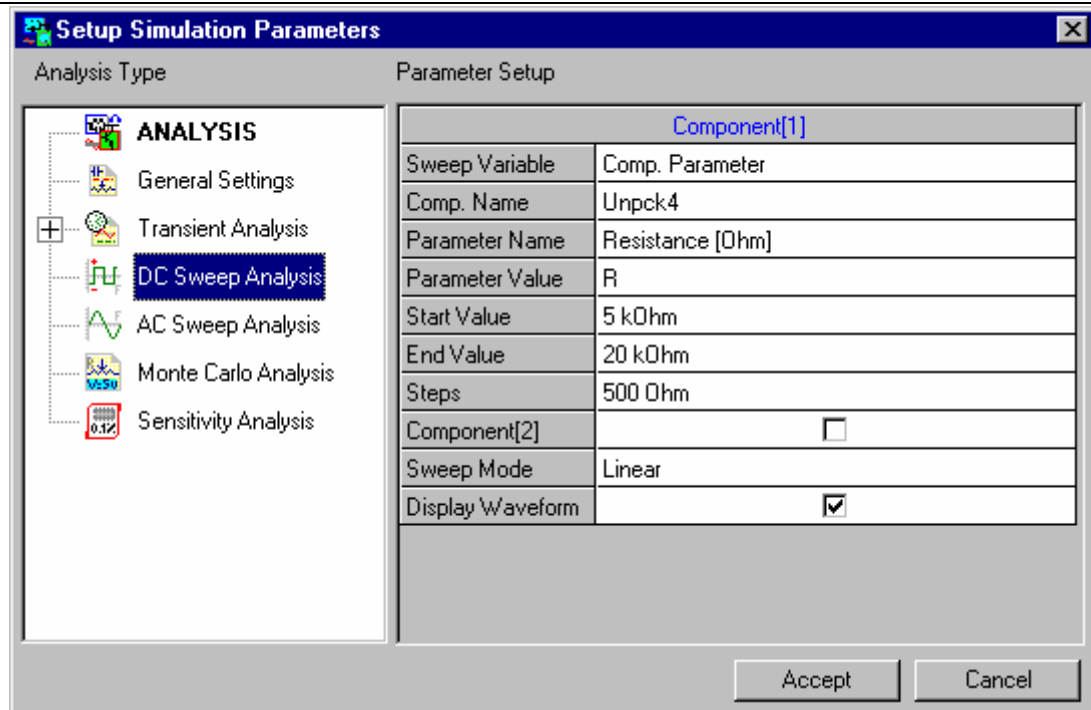

Fig. 6.14
3. Click **Analysis** in the main menu. A window Setup Simulation Parameters opens with the option Analysis being highlighted on the left side of the window by default. Set the parameters by selecting **GENERAL SETTINGS** from the tree view on the left side of the window. Now, select the DC Sweep Analysis option (Refer Fig. 6.14).